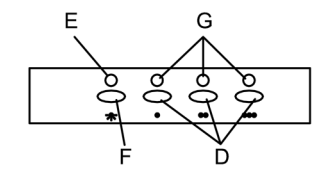

Fig.6
- Lighting control lamp. Fig. 6. (Ref. E).